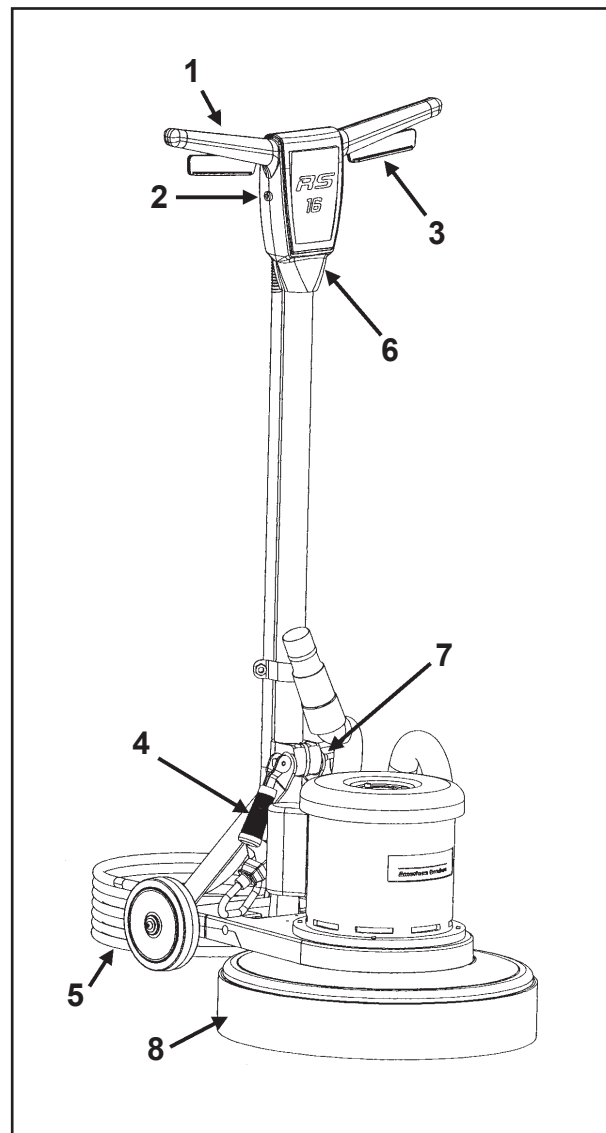

Figure 1
2. Install skirt (RS-16 DC) as shown in figure 1, item 8; stiffening the strip down.